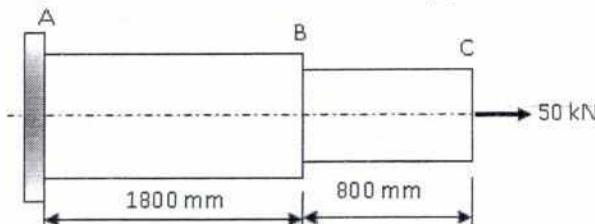

Fig.1
- Q1 (a)** A load of 50 kN is applied to a compound axial member shown in Fig. 1. The segment *AB* is a 20 mm diameter solid brass rod ($E = 100$ GPa) and segment *BC* is a solid aluminum rod ($E = 70$ GPa). Determine the minimum diameter of the aluminum segment if the axial displacement of *C*, relative to support *A*, must not exceed 5 mm.